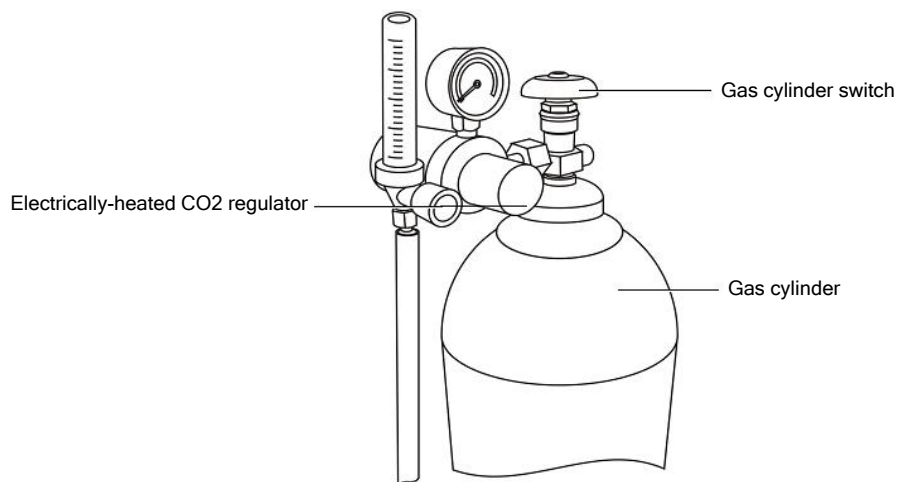

Figure 2-5 Position of the electrically-heated CO2 regulator
1. Use installation nuts to mount the electrically-heated CO2 regulator (see Figure 2-5) to the gas outlet of the gas cylinder, and fasten the regulator.